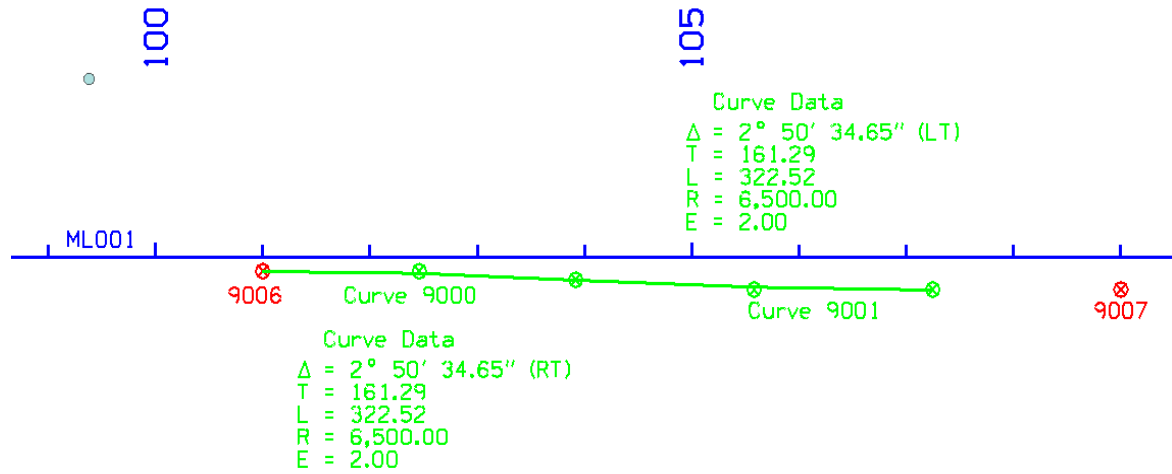

Figure 3: Reverse curve for lane redirection in example problem.
Using Table 4 in Section 2A-3 with a normal crown (NC), $R = 6500$ feet. The incomplete alignment algorithm within Geopak cogo should be used for the calculation of the reverse curve geometry. The commands below, included as a portion of an input file, produce the results illustrated in Figure 3.